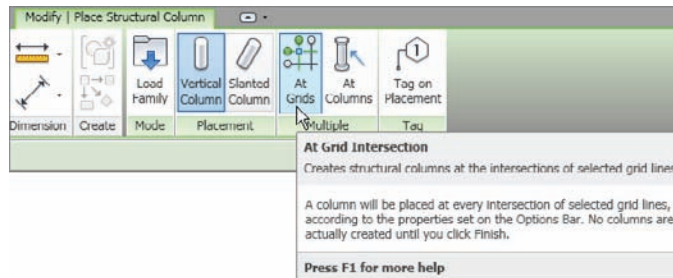

FIGURE 8.29 Using the Place Column At Grids function
2. On the Modify | Place Structural Column tab, click the At Grids button on the Multiple panel, as shown in Figure 8.29.